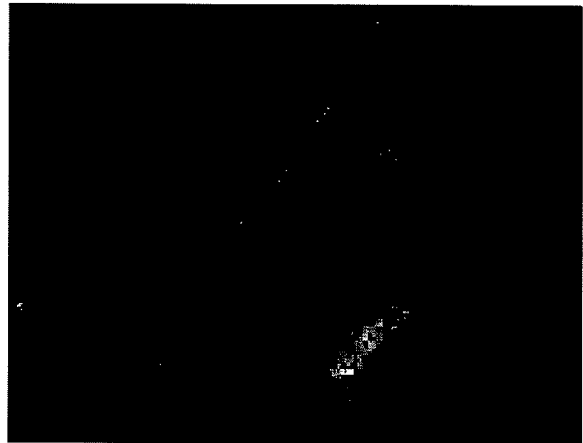

Figure 8
2. Before charging the batteries, the battery compartment needs to be vented. To vent compartment, tip up the recovery tank until it locks in the open position (see figure 8). To close the tank, pull up on the arm and then slowly lower the tank to the closed position.